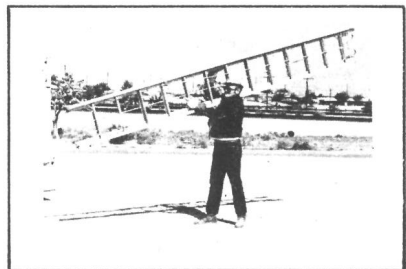

FIGURE 23.
15.02 To carry an extension ladder, first place it in the vertical position with the side rails of the bottom section on the outer side. Tilt the ladder until the bottom section side rail rests against the chest and shoulder; then lift the ladder to the shoulder until the exact point of balance is obtained. The proper carrying method is shown in Figure 23.